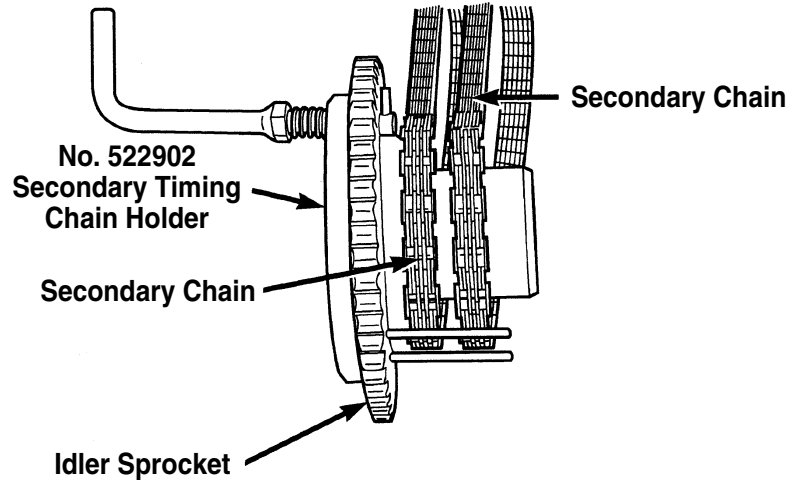

Figure 1
1. Install both secondary chains onto the idler sprocket. Align the two plated links on the secondary chain to be visible through the two lower openings on the idler sprocket. Position No. 522902 Secondary Timing Chain Holder to hold the chain in place. See Figure 1.